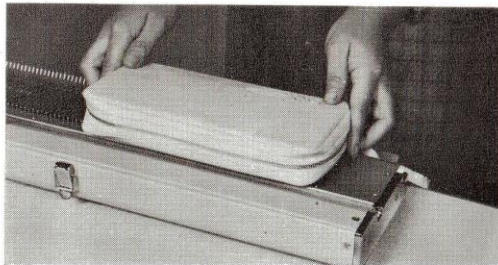

Fig. 3
3. Untie the cord and take out the Accessory Case — Figs. 3 & 3a.